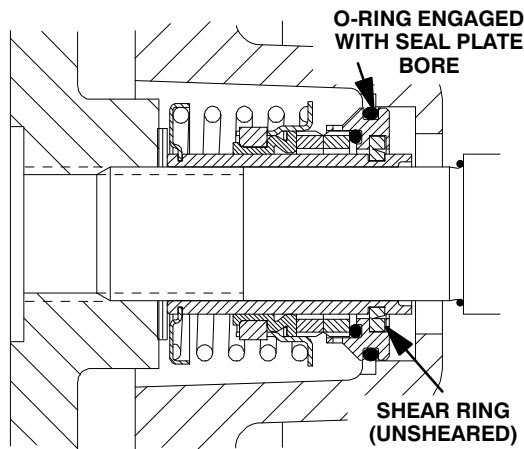

Figure 9. Seal Partially Installed
Clean and inspect the impeller as described in **Impeller Installation and Adjustment**. Install the full set of impeller shims (26) provided with the seal, and screw the impeller onto the shaft until it is seated against the seal (see Figure 9).